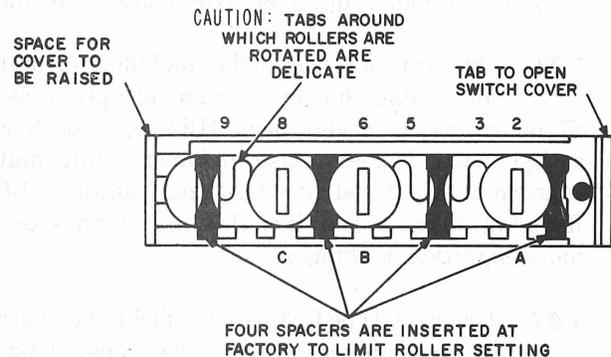

Fig. 2—Detail of Switch for Installing Options
2.05 Figure 2 shows the three sections or rollers: A, B, and C of switch S1. To access the switch rollers, the hinged protective cover must first be opened by pulling it from the end marked with a dot. Each switch roller is individually adjusted to one of two positions by using the provided screwdriver to *gently* rotate the adjustable roller. Switch positions are numbered as shown on protective cover.